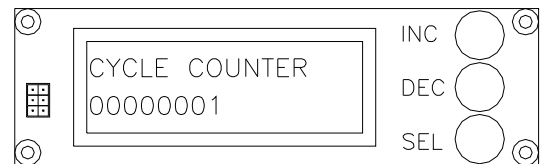

FIG. M1
- b. **Check DOOR CYCLES** using the Display and 3 Buttons provided (Figure M1).